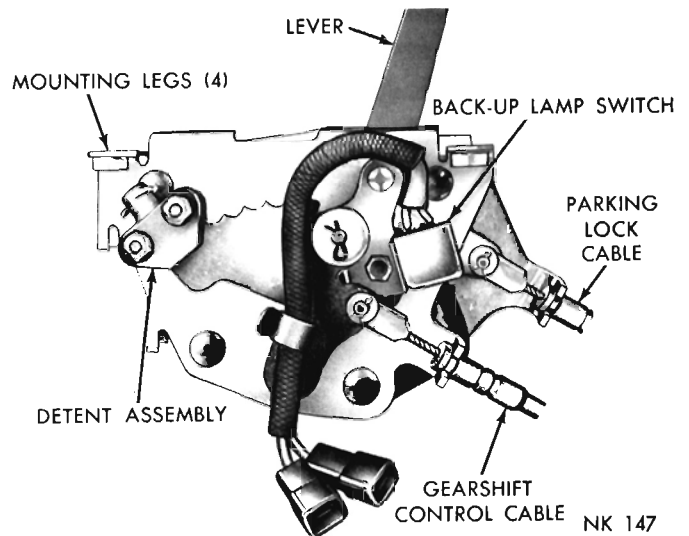

Fig. 24—Console Gearshift Unit
(5) Disconnect the two cable and housings from the unit. Disconnect the back-up lamp switch wires (Fig. 24).
(6) Attach a piece of soft wire about four feet long to the end of each cable. Coat the cable housings with lubricant, then carefully pull the cable assemblies down through the floor grommets. Disconnect and leave the wires in the floor to route the cables during reinstallation.